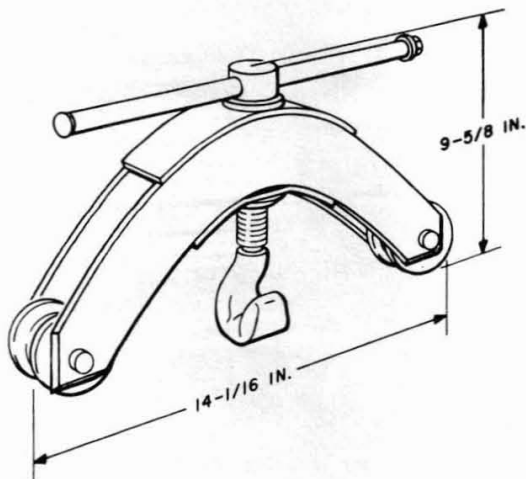

Fig. 3—D Slack Puller
**3.03** The D slack puller (Fig. 3) is similar in design to the E slack puller except that the D puller does not have ball bearing action, and therefore, the turning effort required is essentially doubled. A second difference is that the ends of the frame are beveled but not rounded.